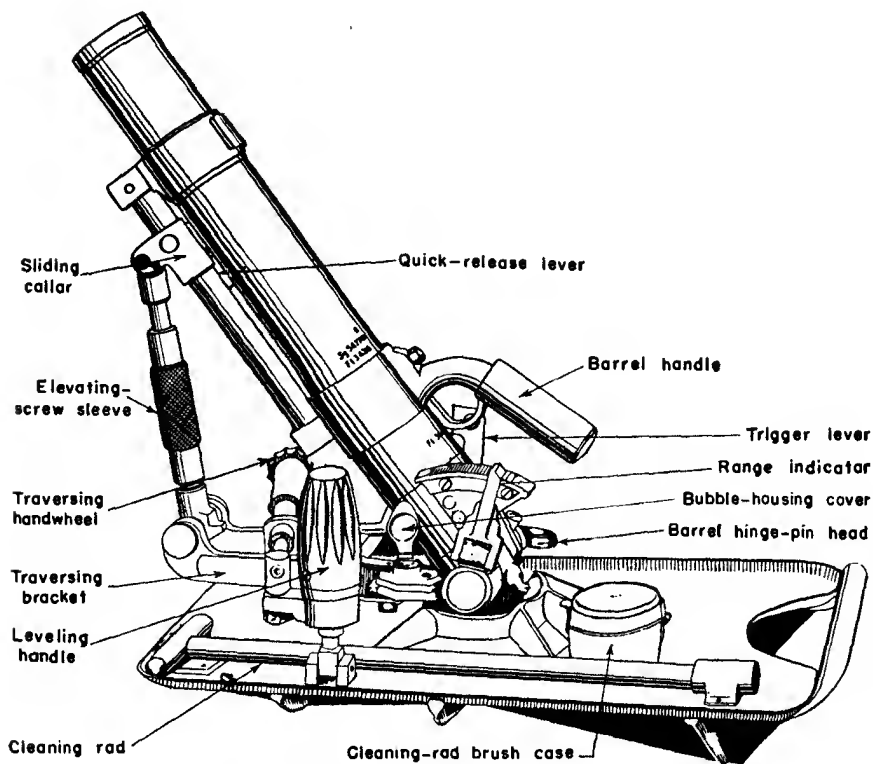

Figure 52.—Left side of 5-cm mortar.
d. How to Operate (Figs. 52 and 53)